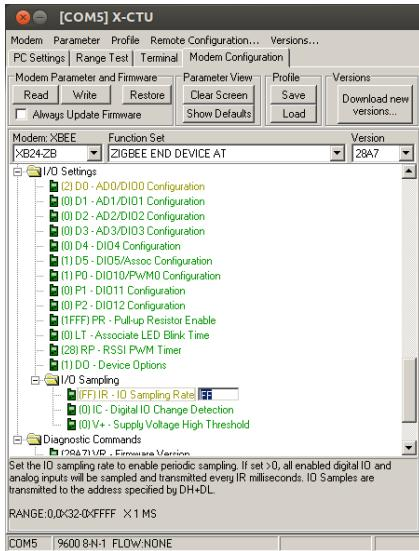

Figure 15.4: Configured end device. D0 set to 2 and IR set to 1FF.
Let's prepare the new configuration. Set the PAN ID to your group ID. Set D0 to analog (2). Set the sampling rate to 255 ms (IR=FF). We write the changes to the XBee. The configuration should look as shown in Fig. 15.4